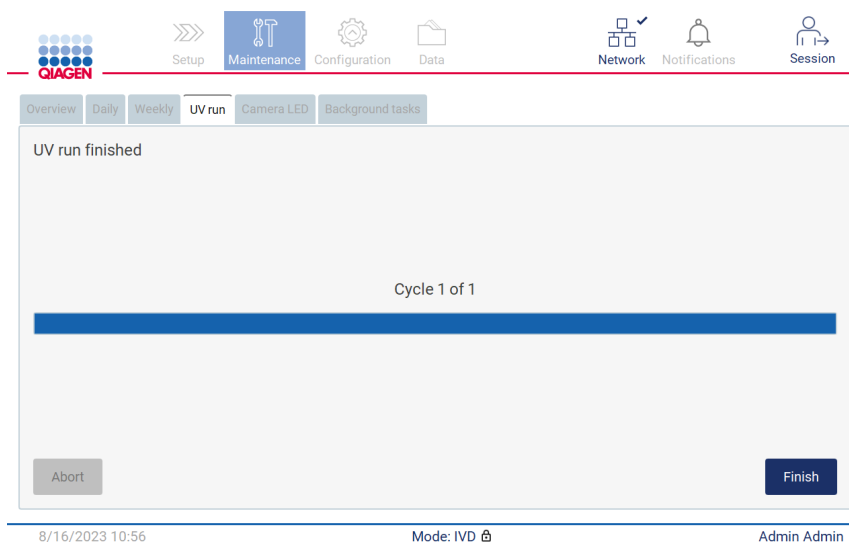

Figure 193. UV run finished screen.
7. A message (see the Figure 193 below) is displayed after execution of the UV run. Tap **Finish** to complete the UV run.